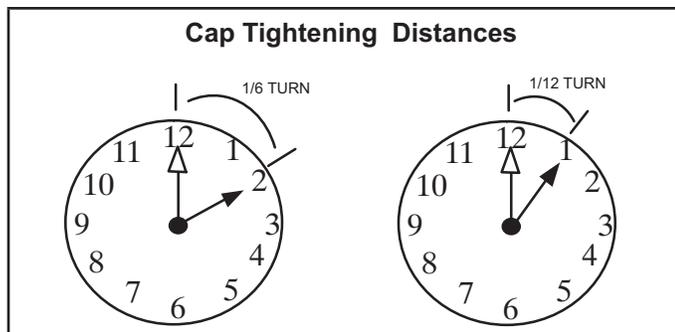

FIGURE 6
- *Without Torque Wrench:* Finger tighten and use an appropriately sized wrench to turn an additional 1/6 turn clockwise as illustrated in figure 6.
- D - Replace the stem caps and secure finger tight, then tighten an additional one-sixth (1/6) of a turn as illustrated in figure 6.